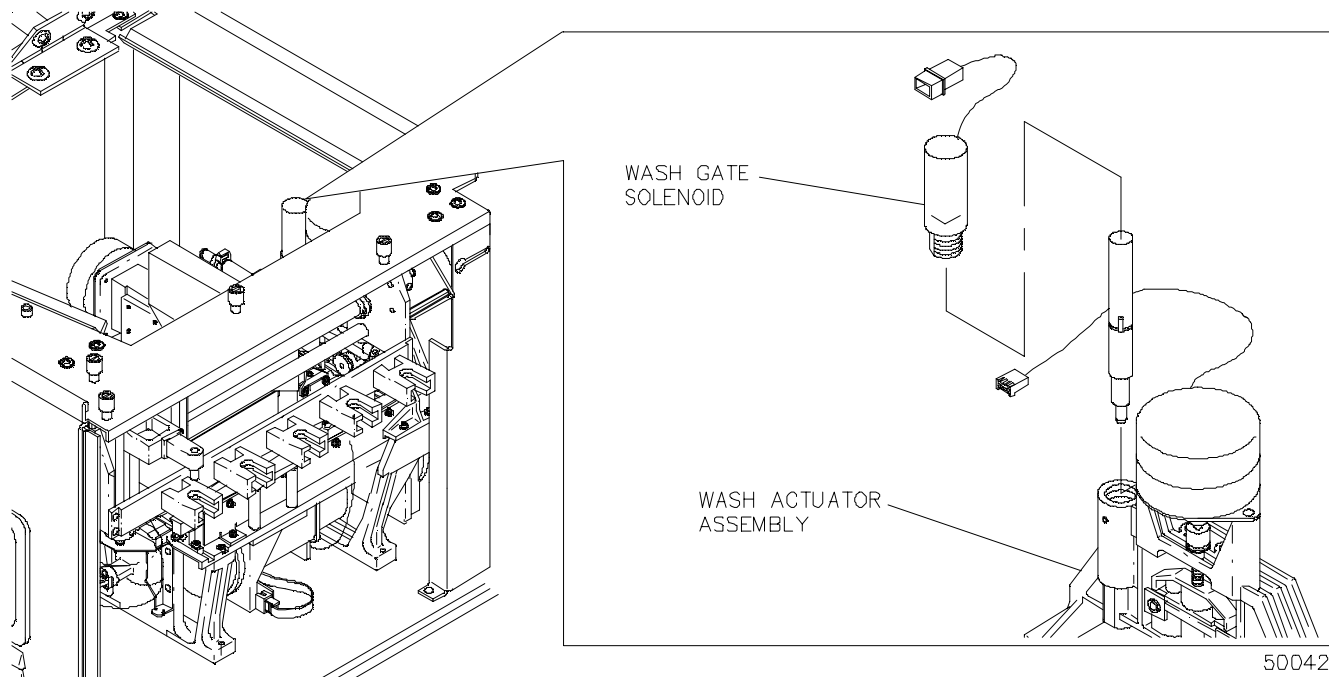

Figure 4-43. Wash Gate Solenoid
5. Unscrew solenoid to remove (**Figure 4-43**).